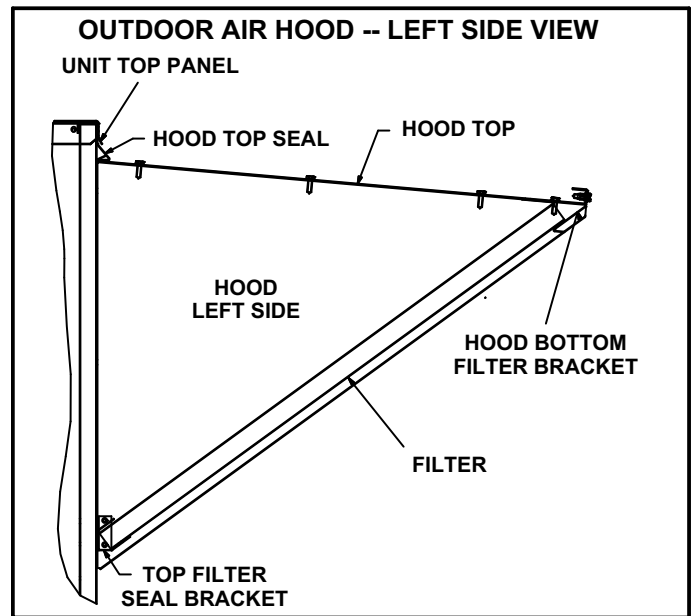

FIGURE 12
- 6- Before securing unit top panel with retained screws, position the outdoor air hood top seal under the panel as shown in figures 12 and 13. The outdoor air hood top seal is shipped with the other outdoor air hood components.
- 4- Secure hood left side to the hood top and to the unit cabinet using the provided screws. See figure 12.